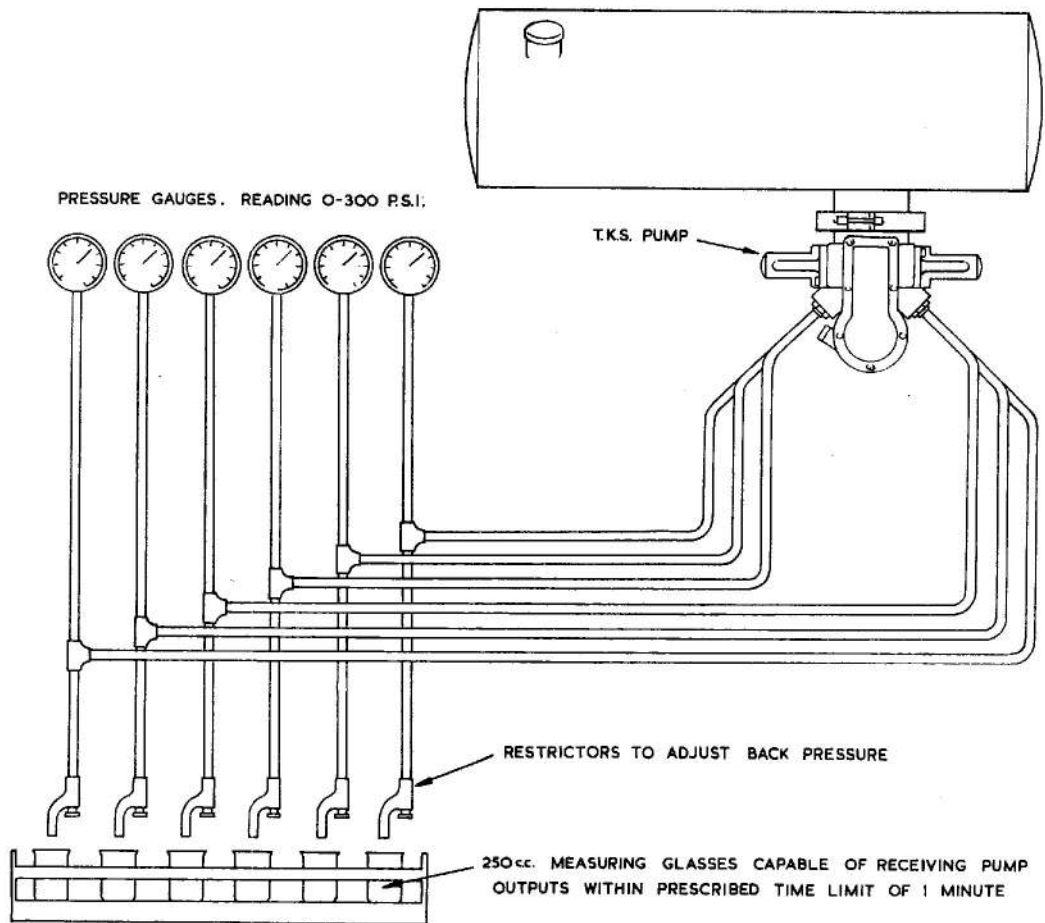

Fig. 6. Test rig for T.K.S. de-icing pump Type XA9500 series
19. The pump should be fitted to a suitable test rig, similar to that shown in fig. 6 and tested in accordance with the procedure set out in the appropriate appendix.
2. Connect the pump to a suitable test rig as shown in fig. 6 of the main chapter and fill the tank with oil DTD 900/4598 or DTD 900/4456. Set the back pressure to 50 lb/in² and check the delivery over a period of one minute. The following delivery rate should be obtained within the tolerance of $\begin{matrix} +10 \\ -0 \end{matrix}$ cc/min.
3. Connect the pump to a suitable test rig similar to fig 6 of the main chapter and fill